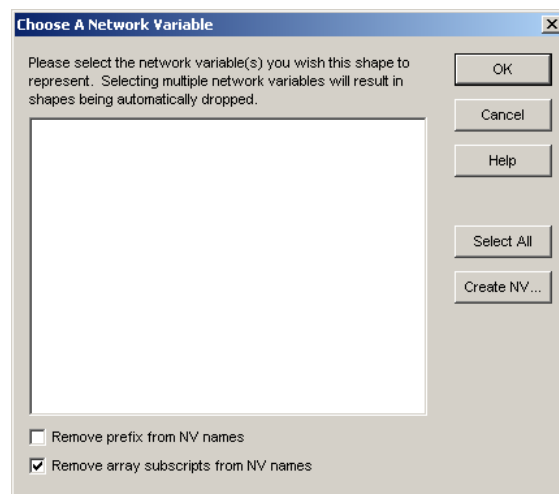

Figure 85: Add an input network variable to the Proxy functional block.
1. Drag the **Input Network Variable** shape onto the gateway functional block. A new window appears (see Figure 85).